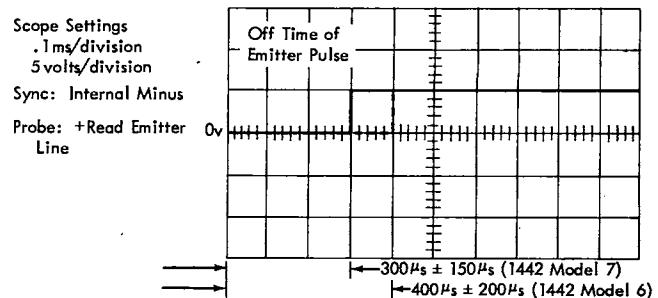

Figure 4-1. Read Emitter Inactive Duration
2. Scope the output of the read emitter amplifier (Figure 4-1) and check that the off (inactive) time of the pulse is 400 usec \pm 200 usec for Model 6; 300 usec \pm 150 usec for Model 7.